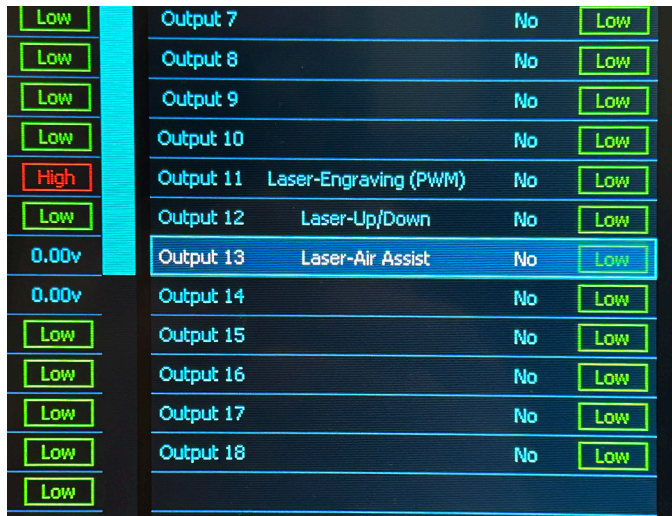

FIGURE 1
2. Change Outputs 11, 12, and 13 (see Figure 1).